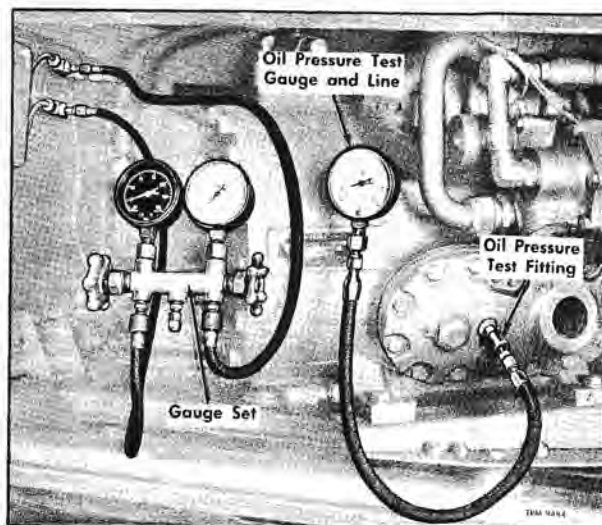

Figure 131—Checking Compressor Oil Pump Pressure
1. Connect refrigerant pressure gauge set to low pressure service fitting (fig. 131). See figure 124 which identifies fittings on the different models.